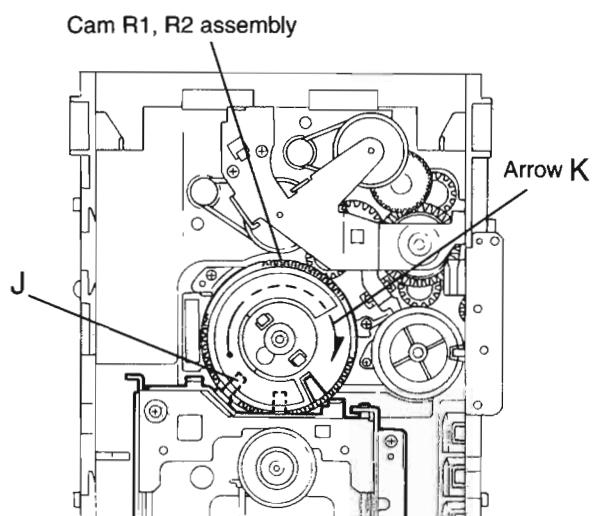

Fig.11
■ Removing the CD mechanism (See Fig.11 and 12)
1. For dismounting only the CD mechanism without removing the CD mechanism assembly, align the shaft "J" of the CD mechanism assembly to the position shown Fig.11 while turning the cam R1 and R2 assembly in the arrow direction "K" .